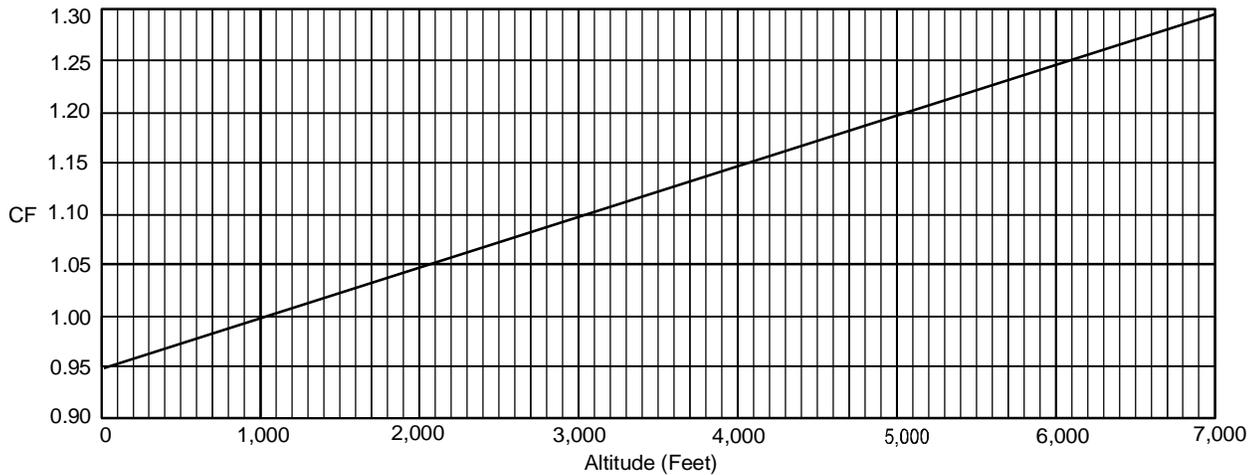
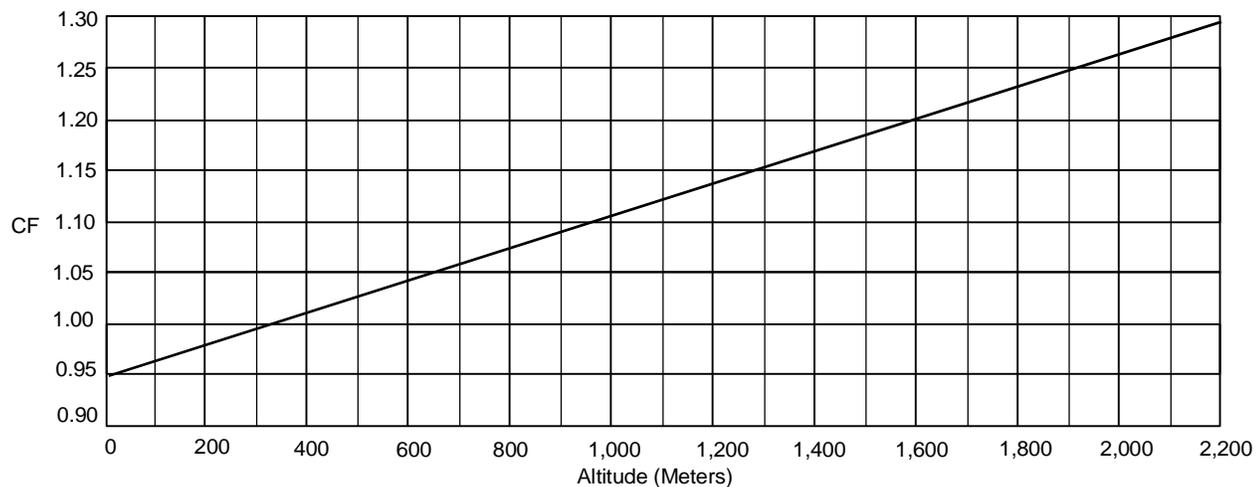

Figure 7: Altitude Compensation in Feet Above Sea Level
Figure 8: Altitude Compensation in Meters Above Sea Level
To modify the controller's AI, reset the 2,000 ppm value using the controller's Compensation Factor (CF) shown in Figure 7 or Figure 8 as follows:
For example, if the sensor is situated at an altitude of 3,000 ft (914.4 m) above sea level, CF, from either Figure 7 or Figure 8, is 1.10.